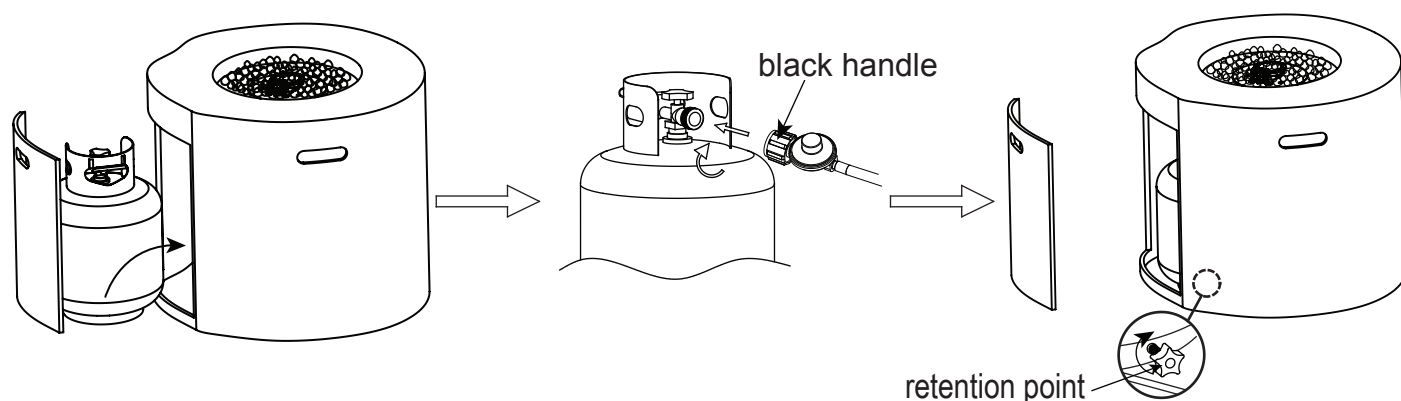

Figure 3
1. Open the door. Place the gas cylinder into the gas cylinder support and connect the regulator by turning the black handle clockwise to tighten. To remove the regulator, turn the black handle counter-clockwise. Secure the gas cylinder by tightening clockwise the retention point found on gas cylinder support, so that the gas cylinder cannot move from side to side or fall down. The knob on the control panel is turned all the way to the "OFF" position when the fire pit is NOT in use (see Figure 3).